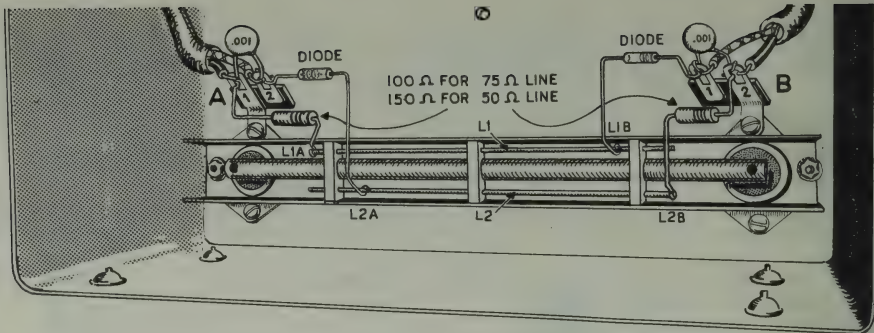

Figure 1
- (✓) Place the two pieces of #14 wire through the holes in the plastic spacers. Center the spacers and wire, allow 1/4 inch of wire outside of the end spacers for connection of parts. Refer to Figure 1 (completed bridge).
- (✓) Temporarily fasten the 2-lug terminal strips to the coax connectors at points A and B. Use 1/4" 4-40 screws and #4 nuts. Observe closely that the terminal strips are reversed physically and must conform with Figure 1.
- (✓) Cut and form the leads of one of these resistors as shown on the left side of Figure 1. Connect one lead to A1 (NS); connect the other lead to L1A (S-1).
- (✓) Cut and form the leads of the other 100 ohm or 150 ohm resistor as shown on the right side of Figure 1. Connect one lead to B2 (NS); connect the remaining lead to L2B (S-1).
- (✓) Connect the lead nearest the red band to A2 (NS).
- (✓) Bend the leads of the second diode to conform with Figure 1, observe red band (cathode) marking.
- (✓) Connect the lead nearest the red band to B1 (NS).
- (✓) Cut both leads of a .001 disc ceramic capacitor to approximately 3/8". Refer to Figure 1. Insert one lead in A1 lug (NS) and the other lead is inserted at A2 lug (NS). Crimp ends of leads lightly.
- () Remove the #4 nuts which temporarily held the 2-lug terminal strips and install the completed bridge in the cabinet. Install assembly to conform with Figure 1. Use 1/4" 4-40 screws, #4 lockwashers and #4 nuts.